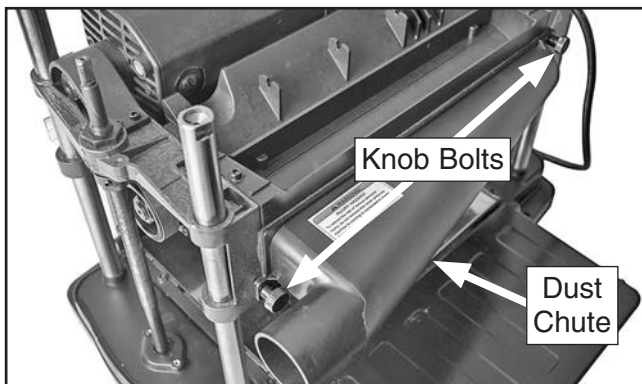

Figure 11. Dust port installed on fan housing.
4. Install dust chute on fan housing, and secure with (2) M6-1 x 14 knob bolts (see **Figure 11**).